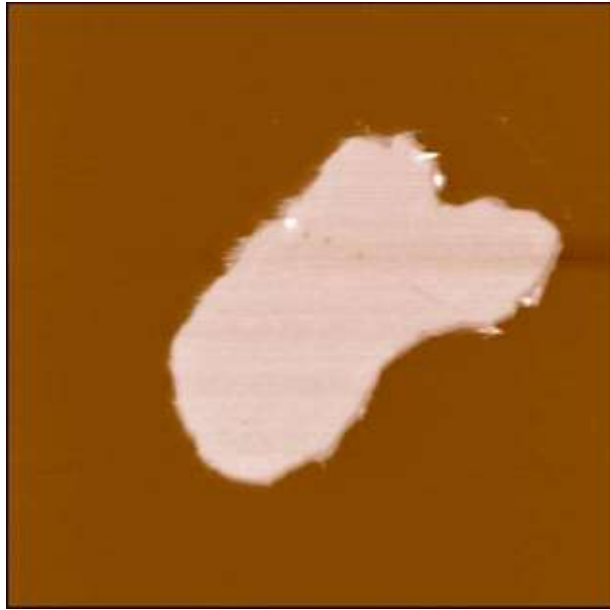

Figure 8.10 Purple Membrane Patch, 1.6 μ m scan size
2. Select an initial scan size of 5-10 μ m to locate a flat purple membrane patch. (Figure 8.10)